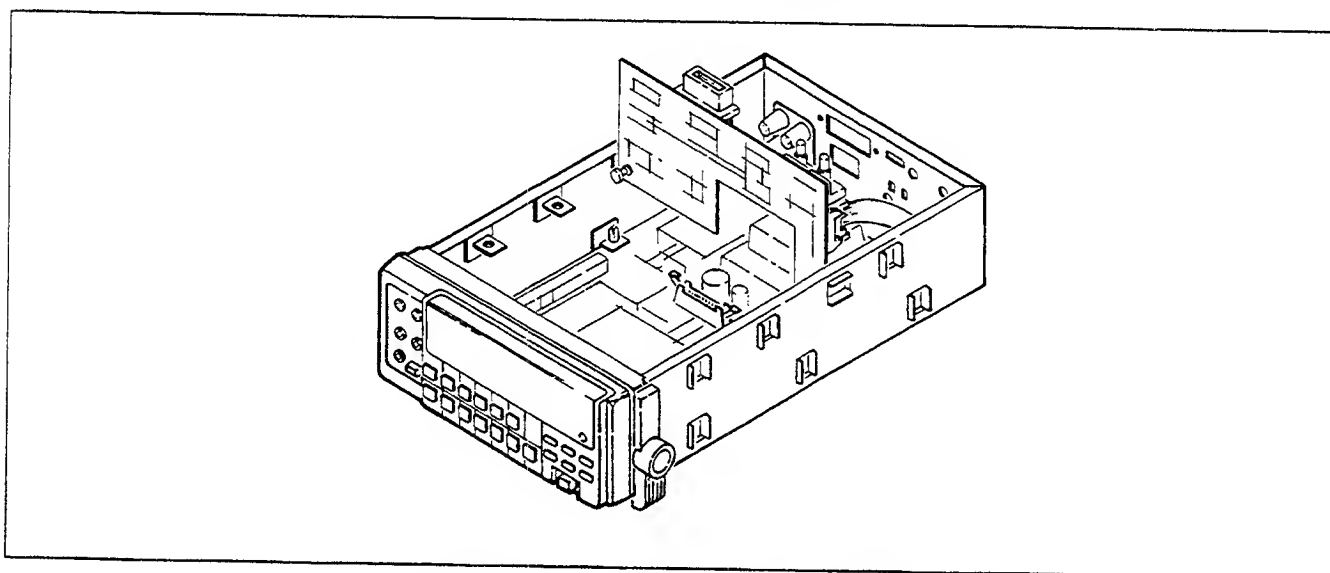

Figure 6-19. Option -05 Service Position
3. Position the IEEE-488 Interface PCA vertically as shown in Figure 6-19 and latch it in place by pressing the two nylon latches into the mounting supports specially provided on the chassis.